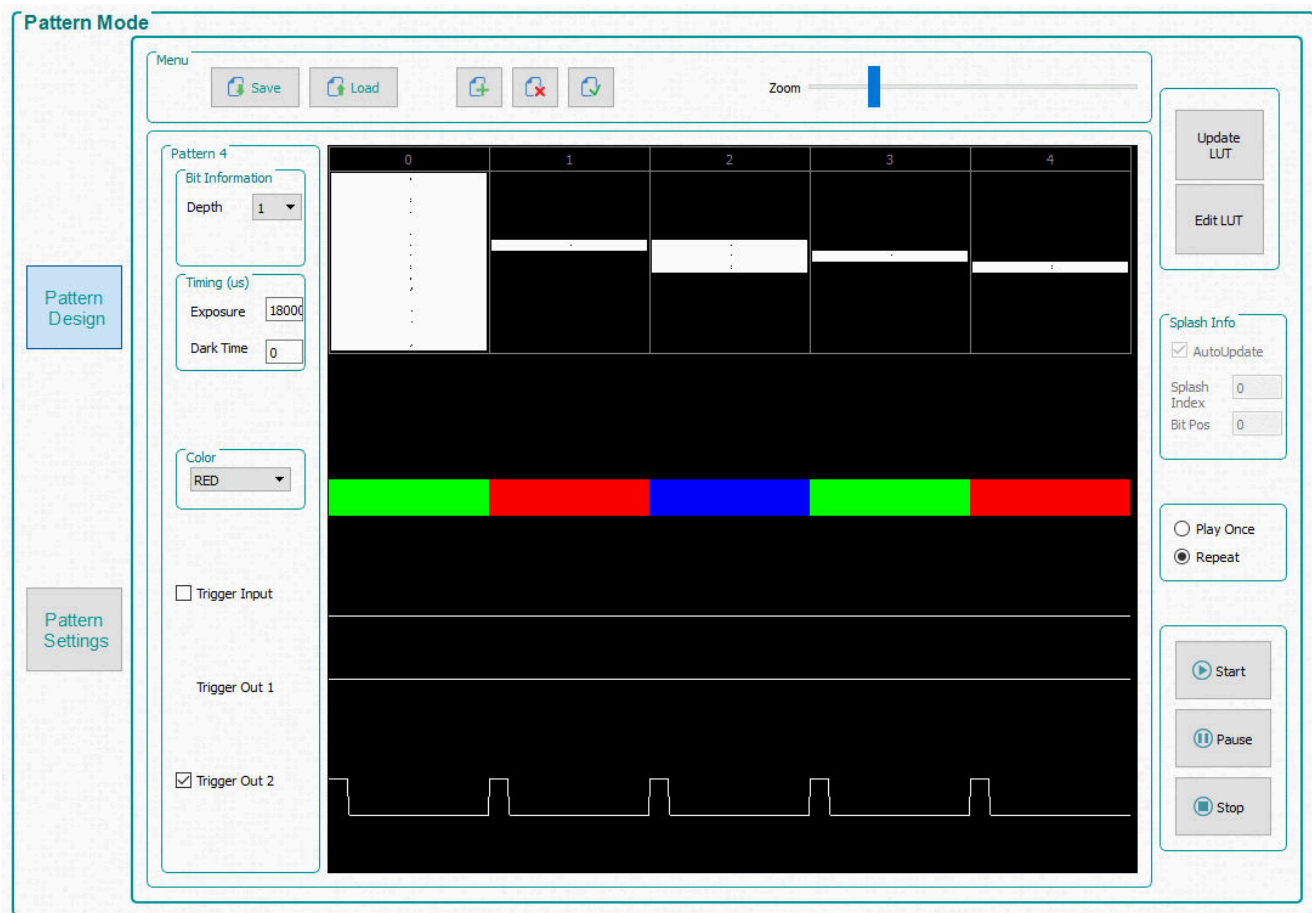

Figure 3-15. DMD Block Load Pattern Sequence
4. The pattern design looks similar to Figure 3-15.